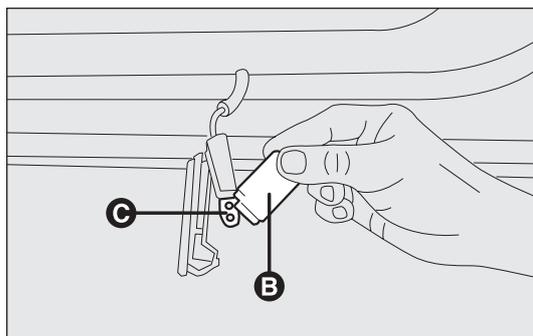

fig. 182
- press the sides of bulb shield B-fig. 182 on the two fastening pins and turn it;